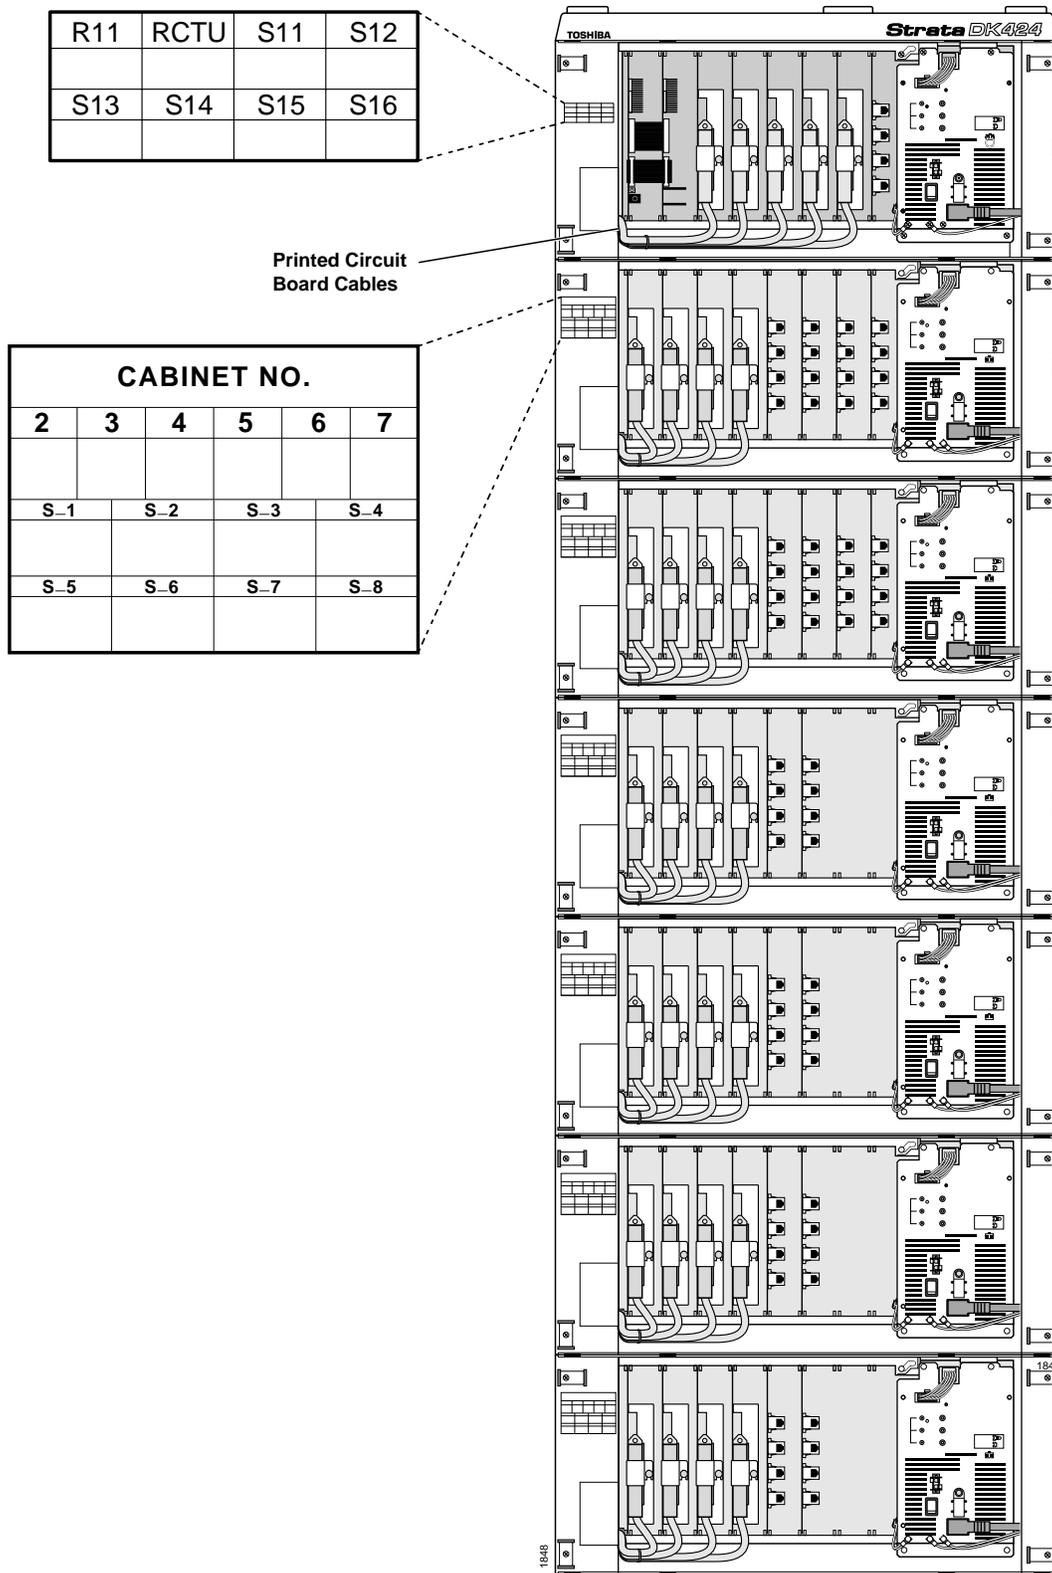

Figure 5-11 Front View of DK424 Cabinet Interior
14. Fill out the slot identification label on the cabinet (see Figure 5-11).
7. Fill out cabinet/slot identification labels on cabinet(s) (Figure 5-11).
11. Fill out cabinet/slot identification labels on each cabinet (see Figure 5-11), then reinstall covers on the cabinets. (The top cover should be installed on the top cabinet.)